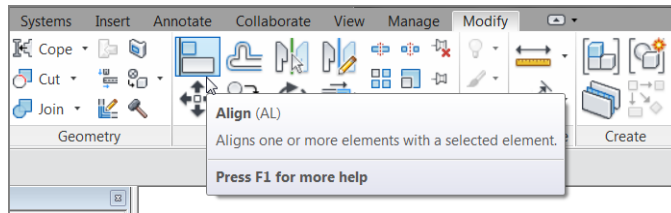

FIGURE 4.29: Click the Align button on the Modify | Place Window tab.
5. On the Modify | Place Window tab, click the Align button, as shown in Figure 4.29.